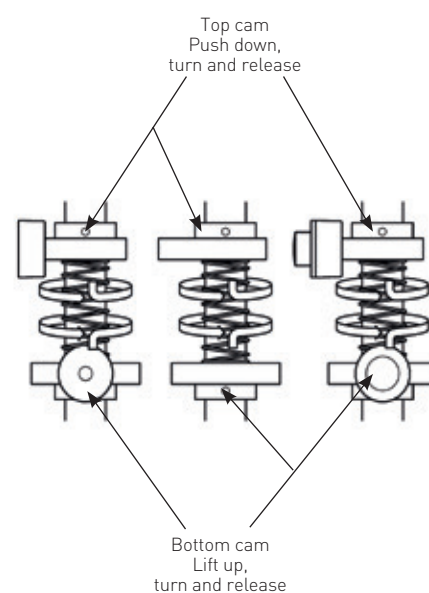

FIGURE 2
2.5 To set switches, lift the bottom cam and turn until the switch has activated and then release. The spring will push the cam back onto the splined shaft. See Figure 2.